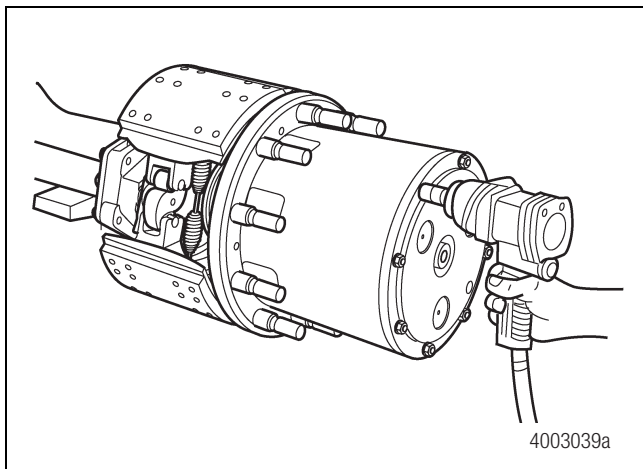

Figure 3.3
1. Use a 15 mm socket to remove the planetary spider cap screws. Figure 3.3.